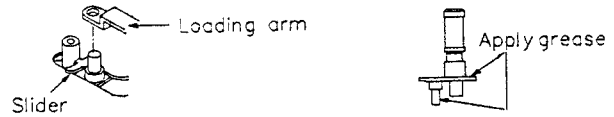

Fig. 4-3-5 S, T-slider replacement
4. Remove the loading arm as shown in Fig. 4-3-5.
5. Remove the guide roller and reinstall it in a new slider according to the steps stated in (5).
7. After completion of the replacement, perform the rough adjustment in the tape transport system adjustment. (Refer to item 1-5-4 (3)).
When the slider is replaced, always apply grease to the slider receptacle as shown in Fig. 4-3-5.